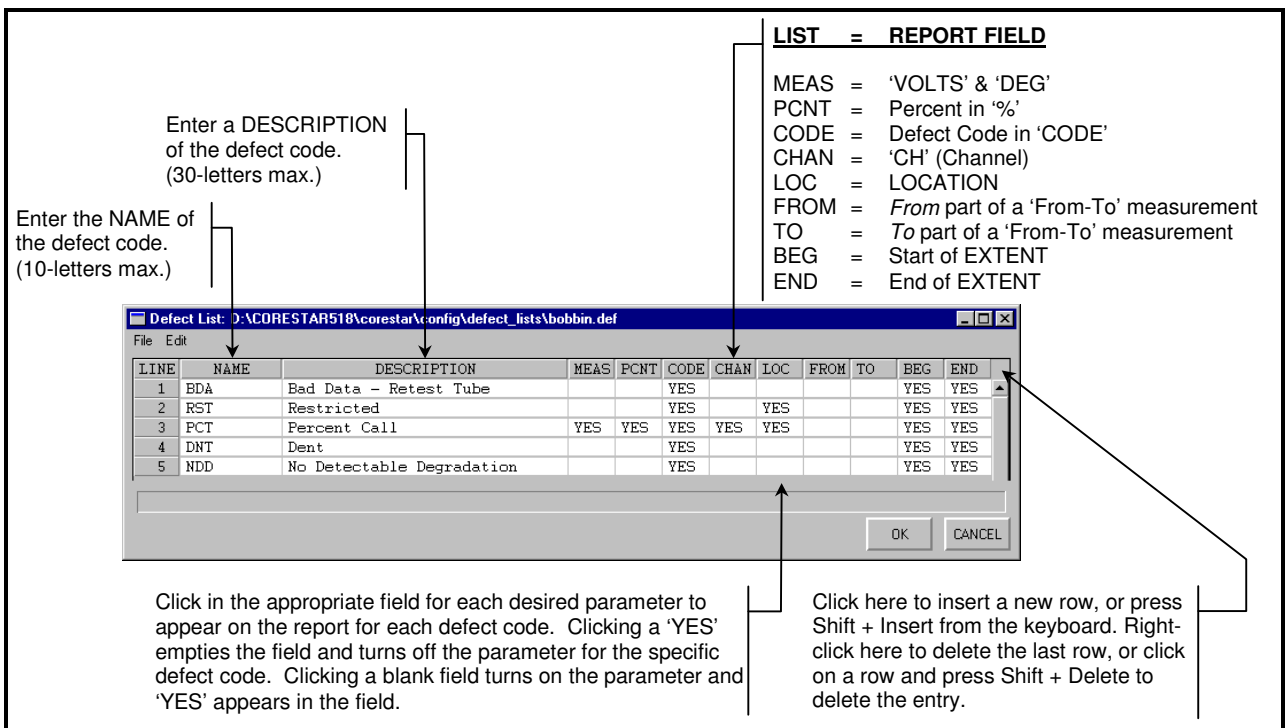

Figure 3-8. Defect List Dialog
- ❑ **Edit > Defect List ...:** Selecting the **Edit > Defect List ...** menu item causes the dialog shown in Figure 3-8 to appear.
Using this interface, user-defined defect codes may be entered and/or edited by the analyst. If a parameter is turned on (YES) for a specific defect code, that parameter will appear on the report when a call is made using that defect code. Referring to Figure 3-8, if a 'BDA' call is made, the defect code (BDA) will appear in the CODE column on CoreStar-type reports or in the '%' column of other report types, i.e., DDA-4, along with
the BEG and END (EXTENT) of test. The number of defect codes that can be entered in this dialog is unlimited. Once defect codes are entered, they never have to be entered again. To edit an existing defect code, simply type over and/or toggle the appropriate parameters. To delete a defect code entry, click the row containing the defect code of interest, and press **Shift+Delete** from the keyboard. To insert a new row, press **Shift+Insert** from the keyboard or click the gray box as indicated in Figure 3-8. The **NAME** of the defect code is limited to a maximum of 10-characters; however, the **NAME** should be restricted to the traditional 3-letter code to accommodate the space provided in most eddy current analysis report types.
Figure 3-9 shows the resulting report entries (CoreStar-type report) for each of the defect codes shown in Figure 3-8. Compare the figures and you'll see how the defect codes work based on the parameters that are enabled for each defect code in the list.